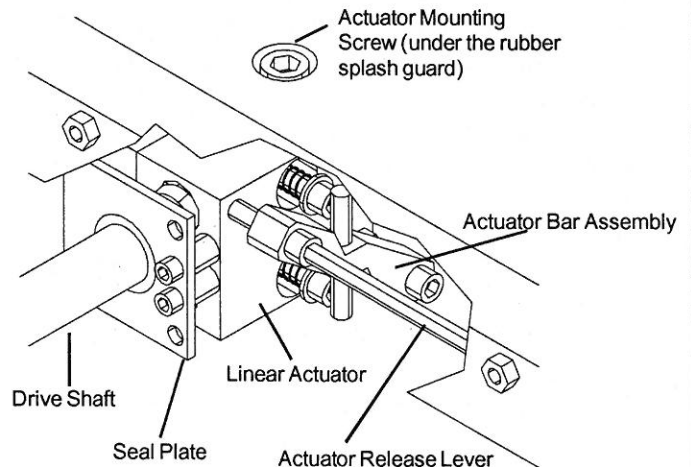

FIG. 1
3. Remove the shaft seal on each side of the linear actuator. See FIG. 1. NOTE: When the bellows are used, the shafts don't get lubricated and the seals would run dry. They would then become noisy and not operate properly.
- b. Remove the actuator mounting screw on top of the carriage. See FIG. 1. Then push the carriage toward the right end of the Grinder.
- d. Turn the actuator release lever clockwise 1/2 turn until the actuator is released from the shaft. See FIG. 1.
- h. Push the carriage back to the left, and reattach the actuator with the mounting screw. See FIG. 1. Turn the actuator release lever, 1/2 turn.